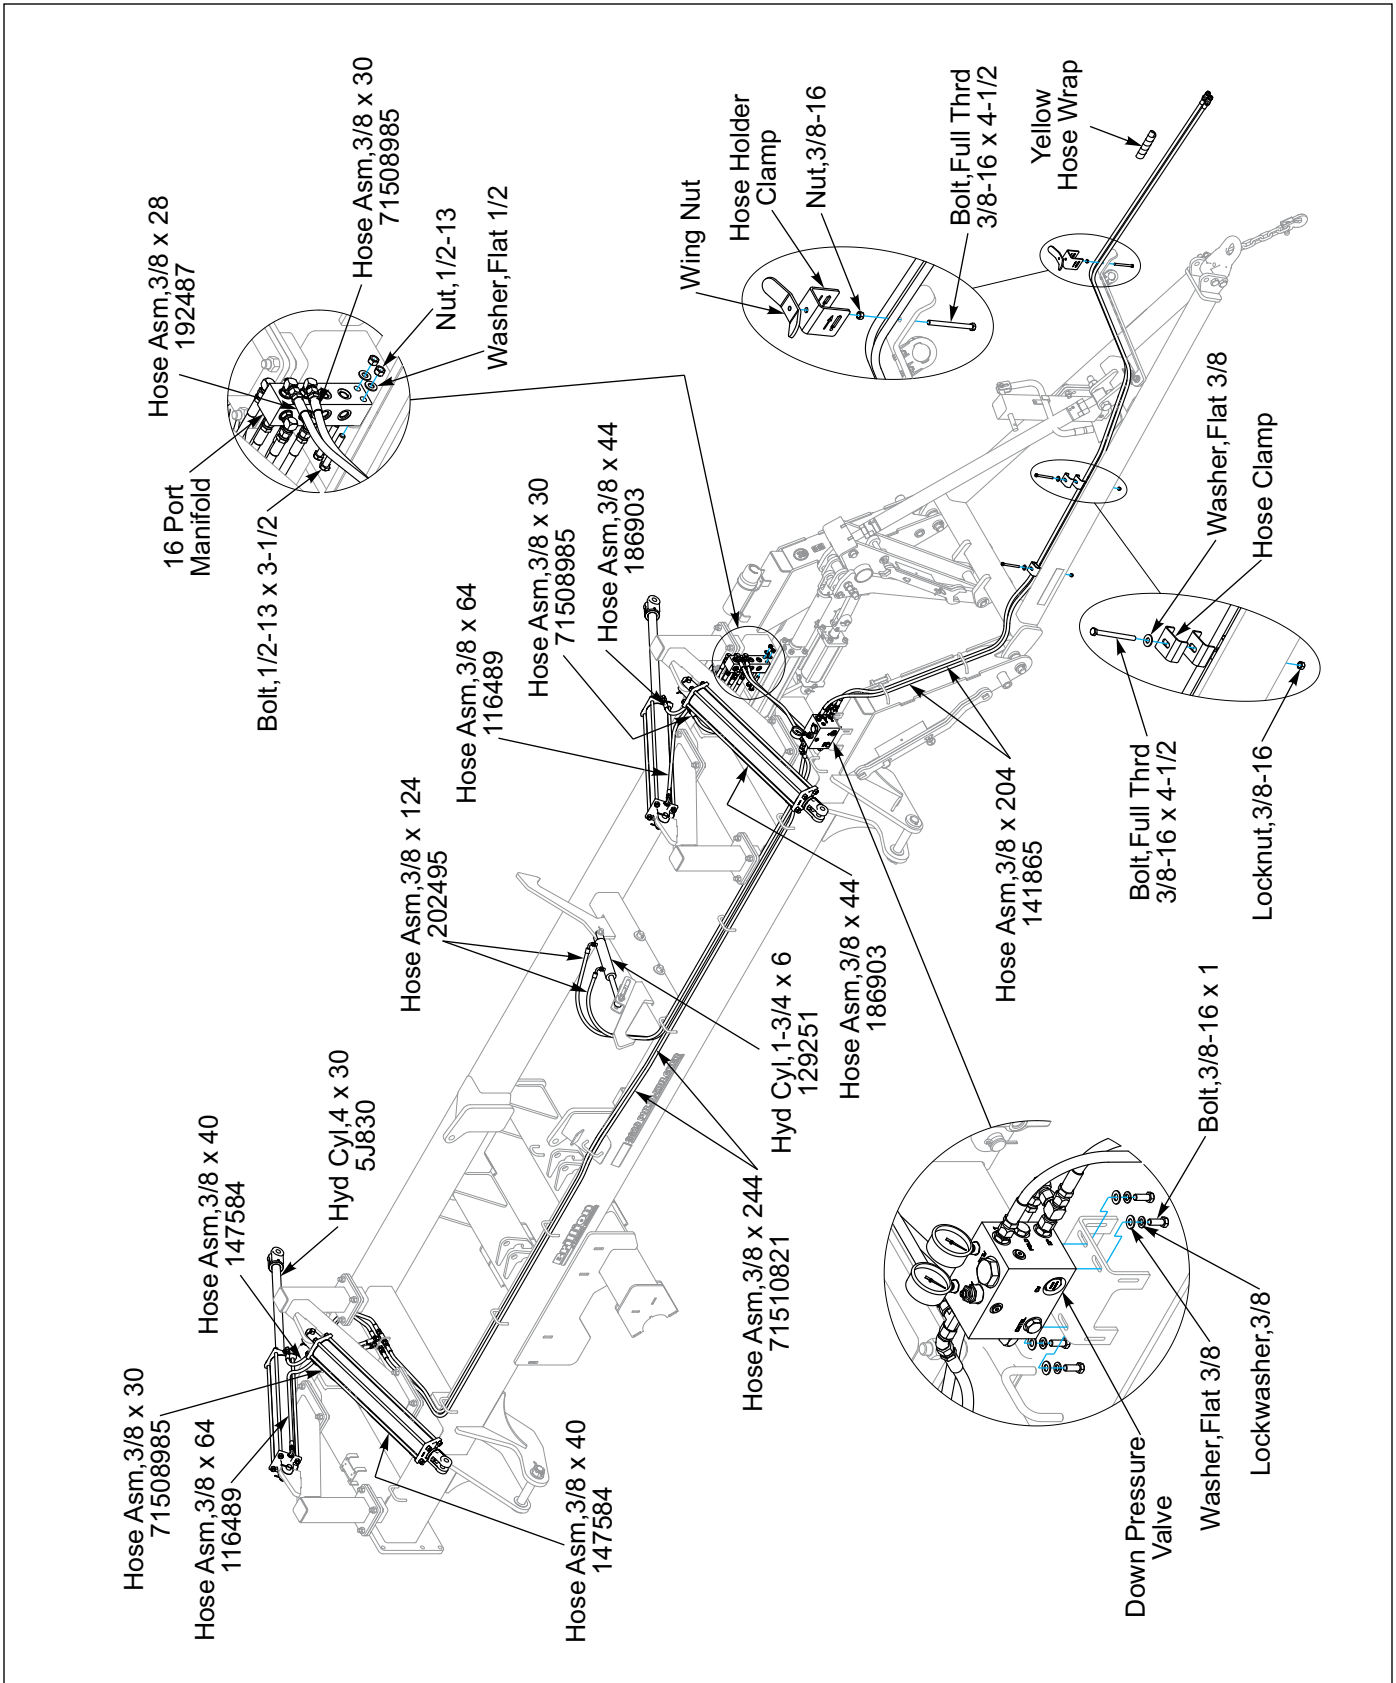

Figure 2-16: Hydraulic Fold Layout
Fold Circuit - Yellow - See Figures 2-16 and 2-17.
1. Attach the 16 Port Manifold to the front manifold bracket located on top of the left side inner frame tube with 1/2-13 x 3-1/2 Bolts, Flat Washers and Nuts. See Figures 2-16 and 2-18.
5. Attach Down Pressure Valve to Frame Bracket with 3/8-16 x 1 bolt, flat and lock washers. Install pressure gauges into top of pressure valve. See Figure 2-16.
2. Install the Fold hoses. See Figures 2-16 and 2-17. Wrap Fold System hoses near the Tractor Tips with yellow hose wrap. NOTE: Restrictor location and size.